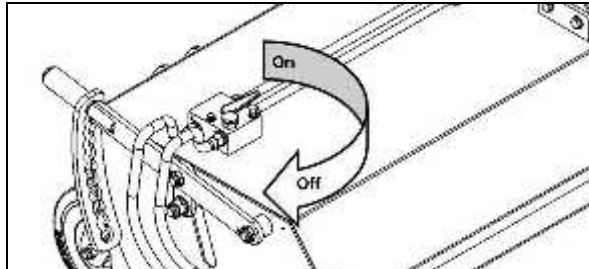
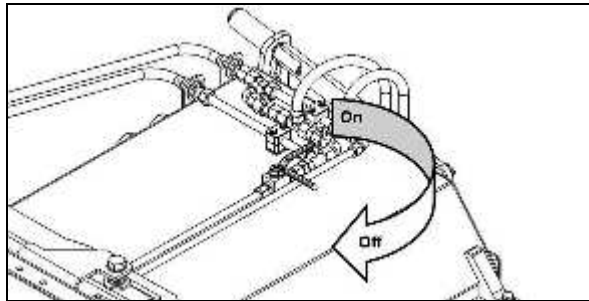

Fig. 4.31
Fig. 4.32
- Close the stopcocks for the hydraulic motor of the side brushes (Fig. 4.31) and to the hydraulic cylinder of the collector (Fig. 4.32).
- The support wheels (1) must point backwards.